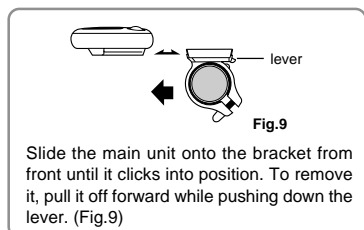

Fig.9
- Slide main unit onto the bracket from front until it clicks into position. To remove, pull it off forward while pushing down the lever. (fig. 9)
Slide the main unit onto the bracket from front until it clicks into position. To remove it, pull it off forward while pushing down the lever. (Fig.9)